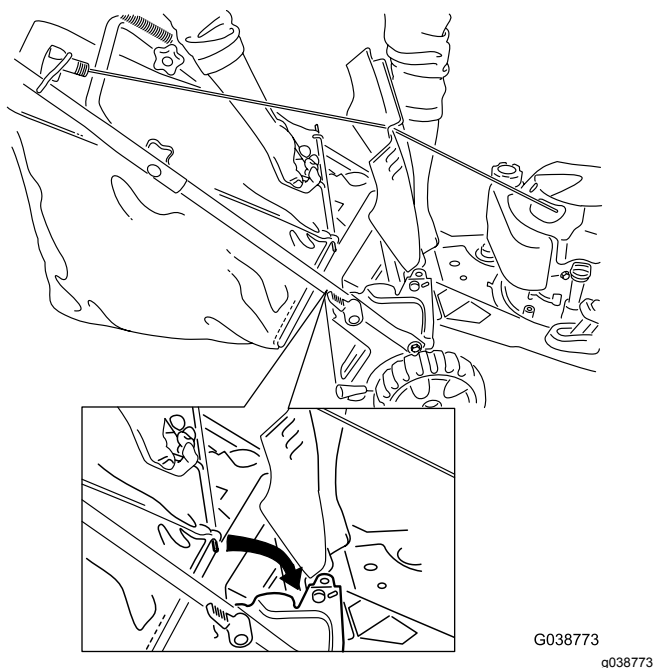

Figure 21
2. Raise and hold up the rear deflector, install the bag in the notches, and lower the rear deflector (Figure 21).